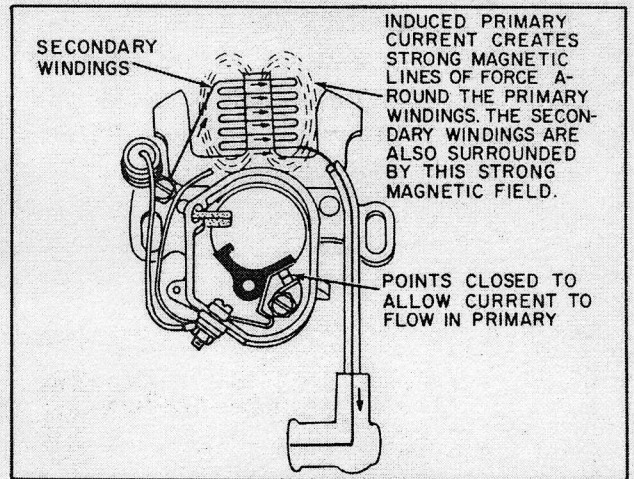

Figure 21
3. See Figure 21 - The magnetic field around the primary windings encompasses the secondary windings also.